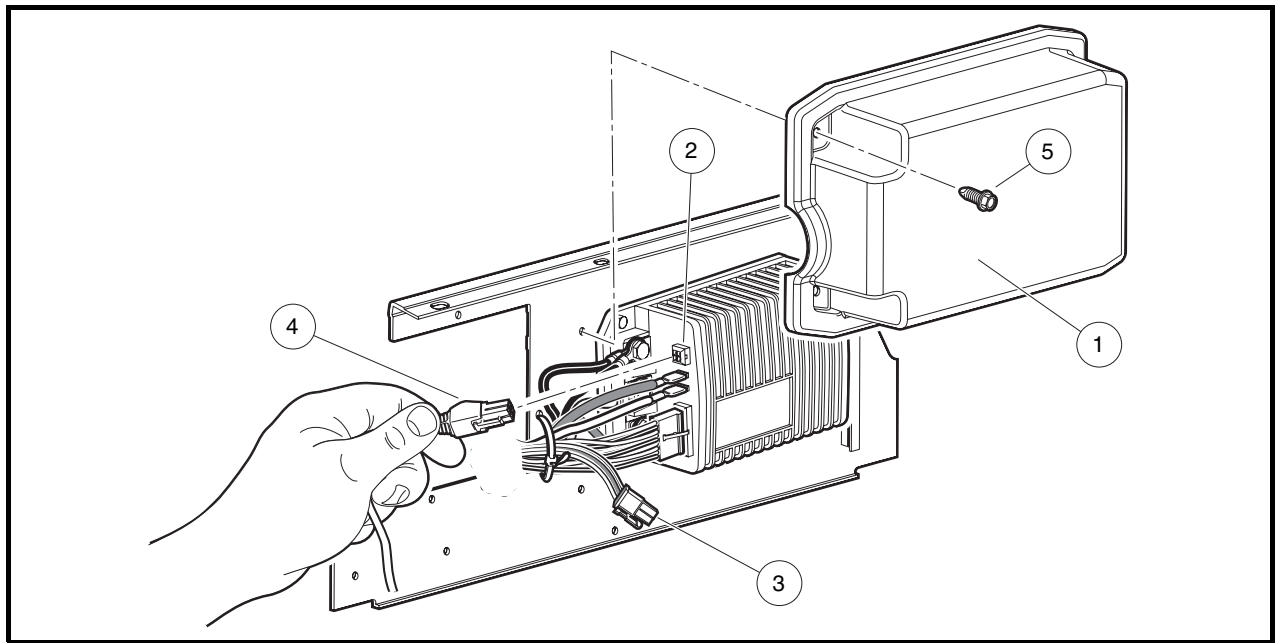

Figure 22-10 IQ System Component Mounting Plate
- 3.2. Remove the two screws (5) securing the controller cover (1) to the component mounting plate (**Figure 22-10, Page 22-20**).
- 3.5. Connect the other end of the handset cord (without the adapter) (4) to the four-pin connector of the speed controller (2) (**Figure 22-10, Page 22-20**).